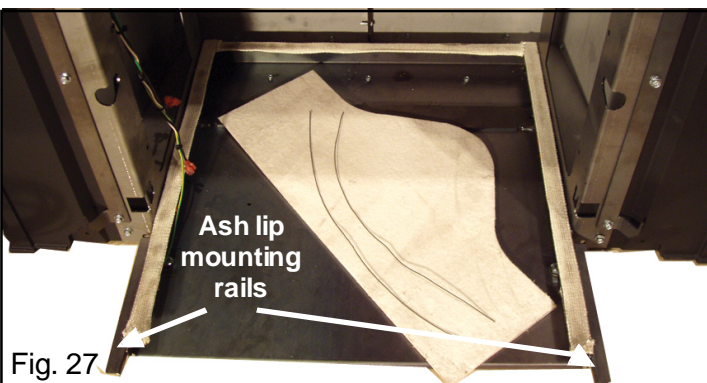
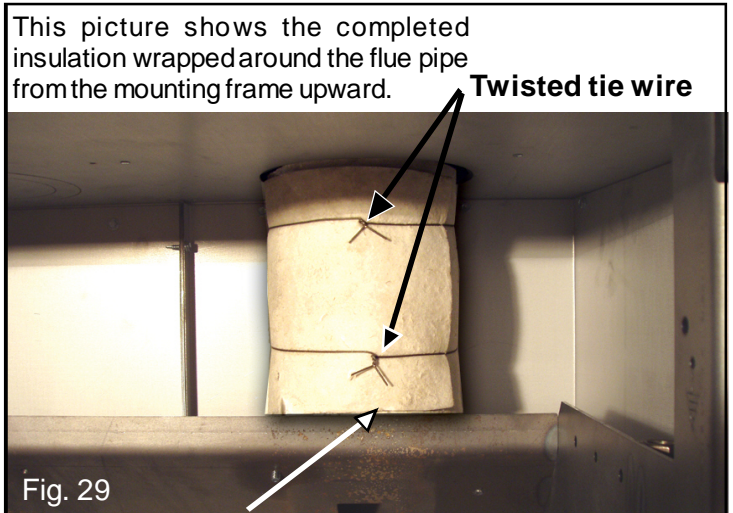

Fig. 27
Fig. 29
14. Install the flue pipe insulation wrap. See Fig. 27. This ceramic insulation is pre-cut to form around the flue pipe stub, to reduce heat transfer into the area around the rear of the hopper and motor area. **This insulation must be installed in all configurations, even if a rear discharge is used.** See Fig. 29.